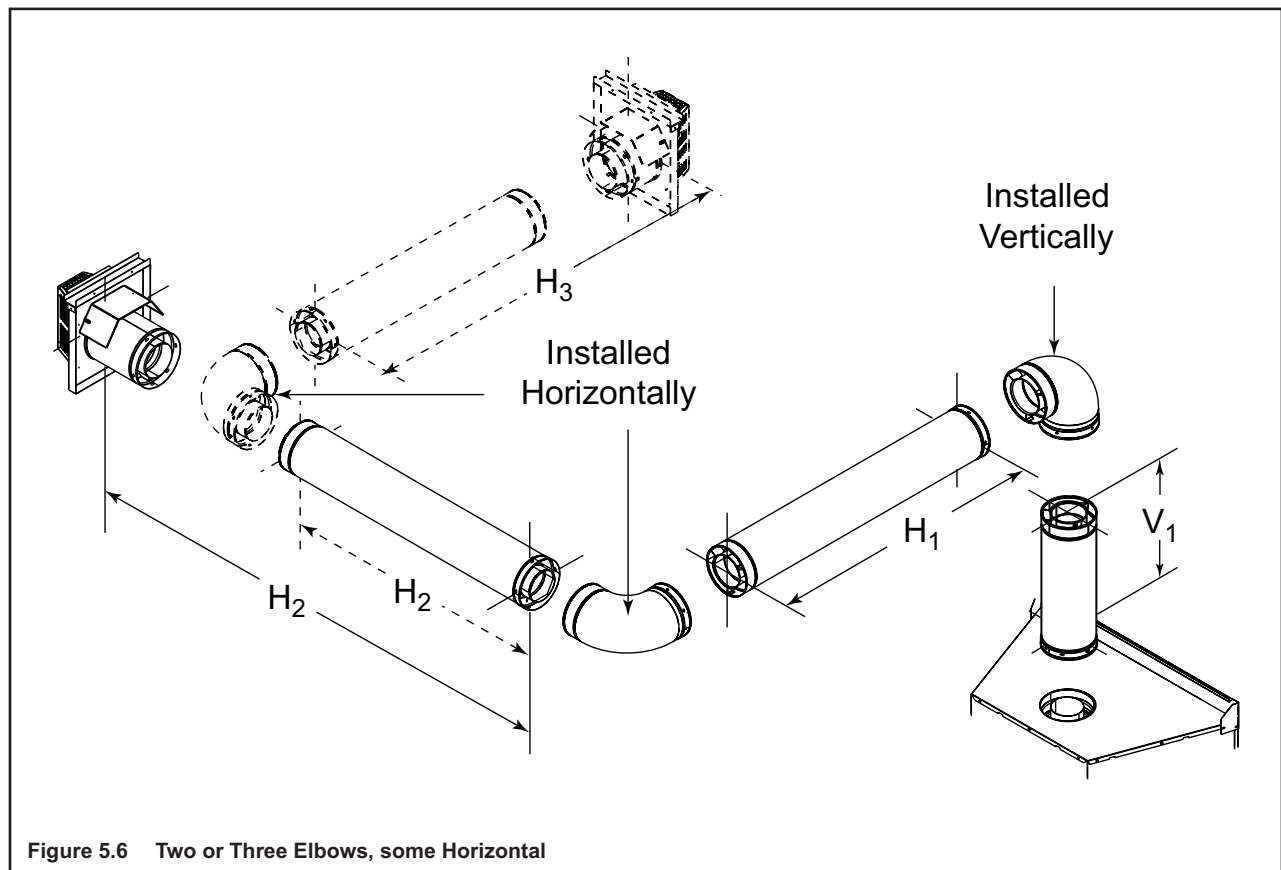

Figure 5.6 Two or Three Elbows, some Horizontal
- A maximum of three 90° elbows (or six 45° elbows) may be used in any vent configuration. Some elbows may be installed horizontally. See Figure 5.6.
See Figure 5.6 for information about installing elbows horizontally.